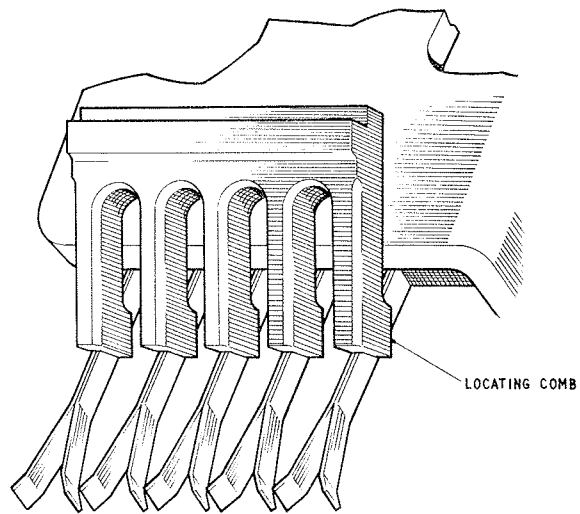
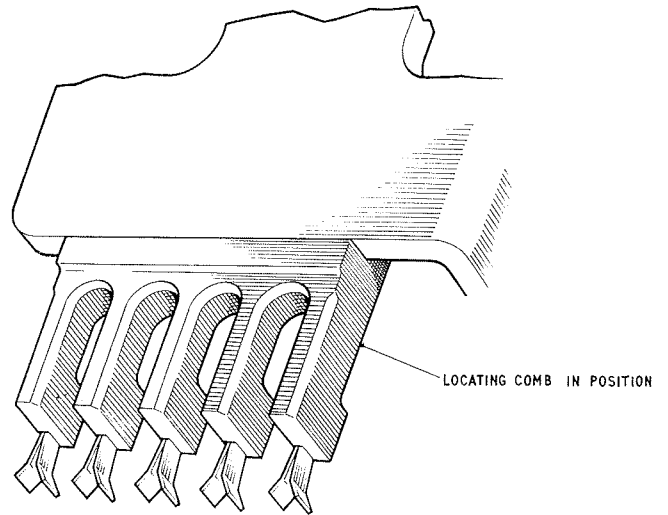
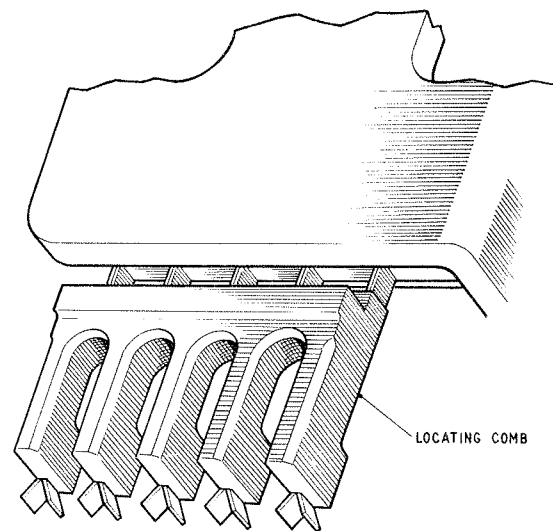

FIG. 6
FIG. 8
FIG. 7
6.1 Non-self-feed Brushes Place the locating comb over the brushes at a point above the set in the spring (see Fig 6). Slide the comb downwards until the tips of each pair of springs have been compressed (see Fig 7) and then slide the comb upwards until its reduced rib is inserted behind the bank frame (see Fig 8).